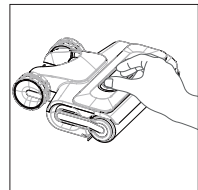

Fig. 13 – Removing the cover
- ▶ Remove the cover of the microfibre roller by pressing the two release buttons on the top together and pulling the cover upwards (see Fig. 13).